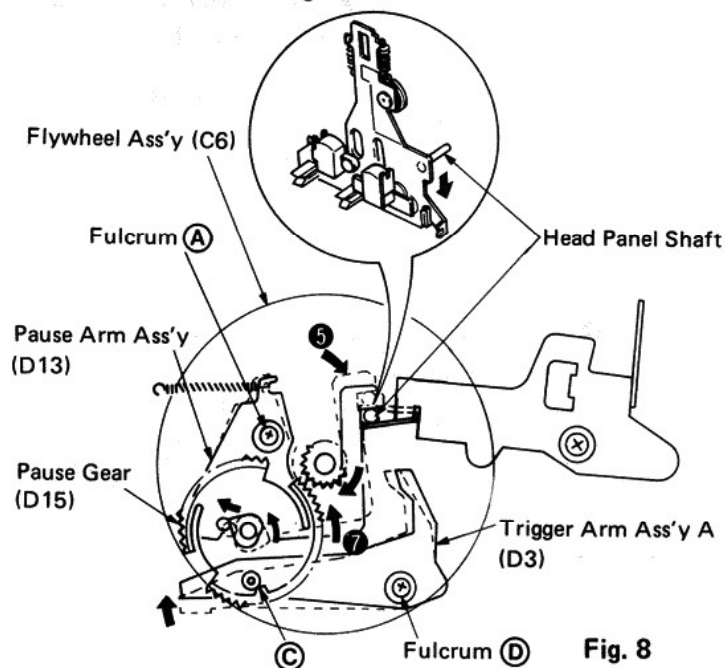
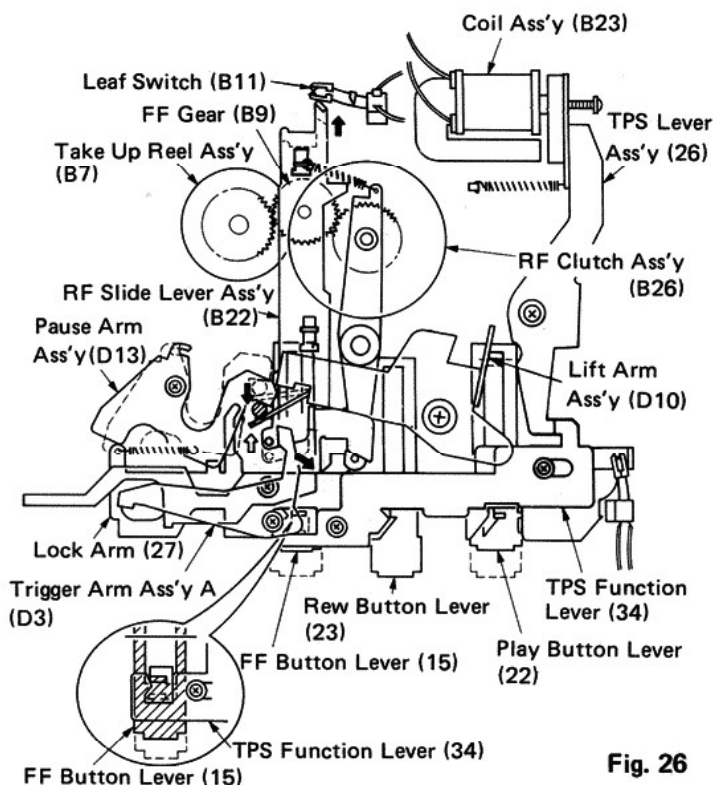

Fig. 8
Fig. 26
- 3 When the pause gear (D15) rotates in the ⑦ direction, the pause arm assembly (D13) rotates around the fulcrum ① in the ⑤ direction. Hence the head panel shaft (namely the head panel) makes a backward motion. (Fig. 8)
• Status Change into FF TPS Mode: (Fig. 26)
- 2 When the leaf switch (B11) turns on, the tape output is muted. Since current flows in the coil assembly (B23), the TPS lever assembly (26) and the TPS function lever (34) are held. Consequently the FF button lever (15) maintains the pressed condition.
- 3 On the other hand the forward movement of the RF slide lever assembly (B22) makes the trigger arm assembly (D3) move clockwise. Since this motion is the same as the pause button lever (21) being pressed (as shown in Fig. 8), the pause arm assembly (D13) pushes the head panel shaft as a result and the entire head panel is made to move backward.
- 4 The gear of the RF clutch assembly (B26) meshes with the FF gear (B9) by the effect of the FF button lever (15). This gear coupling is further interlinked with the gear of the take-up reel assembly (B7). Thus the take-up reel rotates to assume an FF TPS condition. (Fig. 26)